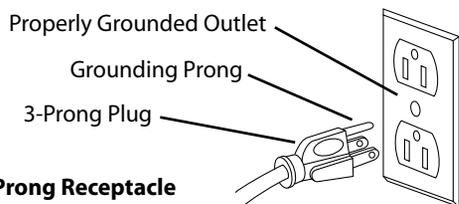

Figure 3 – 3-Prong Receptacle
Refer to Figures 3 and 4
- This tool is equipped with an approved 3-conductor cord rated at 300V and a 3-prong grounding type plug (See Figure 3) for your protection against shock hazards.
- Grounding plug should be plugged directly into a properly installed and grounded 3-prong grounding-type receptacle, as shown (Figure 3).